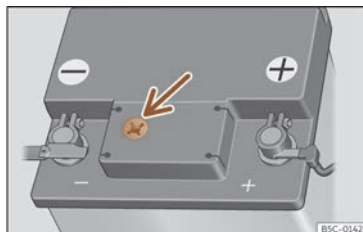

Fig. 232 Sight glass on the top of the 12 volt battery (schematic representation).
- Check the colour display in the sight glass on the top of the battery >>> **Fig. 232.**